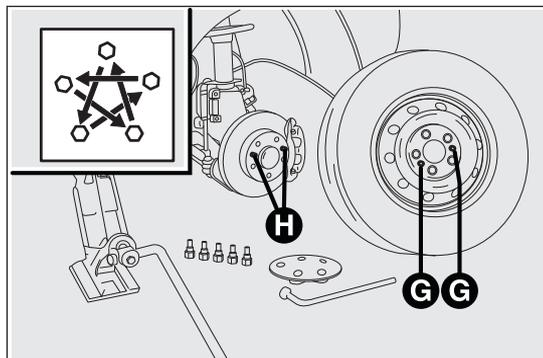

fig. 176
- fit the spare wheel, aligning holes G fig. 176 with the pins H. When fitting the spare wheel, ensure that the wheel support surfaces are clean and free of impurities that could subsequently cause the bolts to loosen;
- fully tighten the bolts, passing alternately from one bolt to the one diametrically opposite, following the order illustrated in fig. 176.